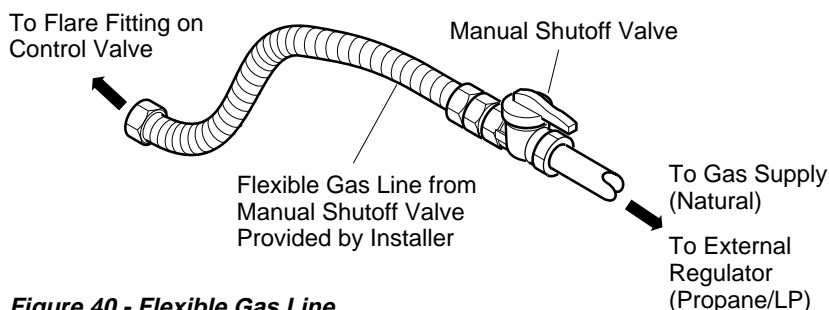

Figure 40 - Flexible Gas Line
2. Route flexible gas line (provided by installer, see Figure 40) from manual shutoff valve to burner system. Route flexible gas supply line through slot in stove bottom and attach to valve.